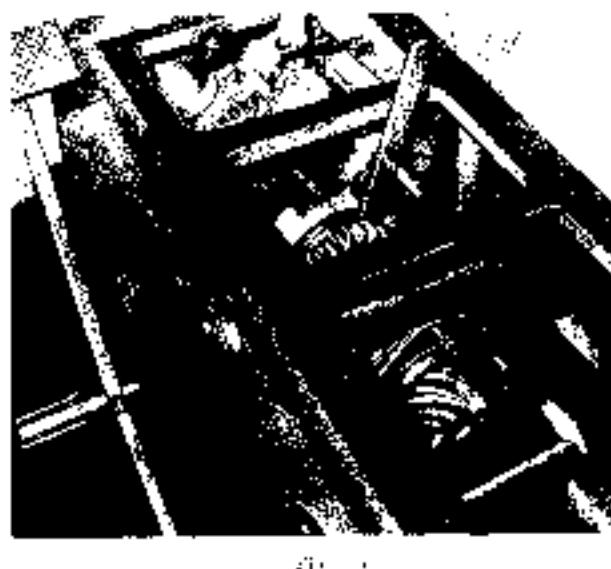

Fig. 251
16. Push the lock spacer against the reduction clutch shaft or adjust the gearbox end. See Fig. 251 and turn the clutch or first motion shaft so as to tighten the nut.